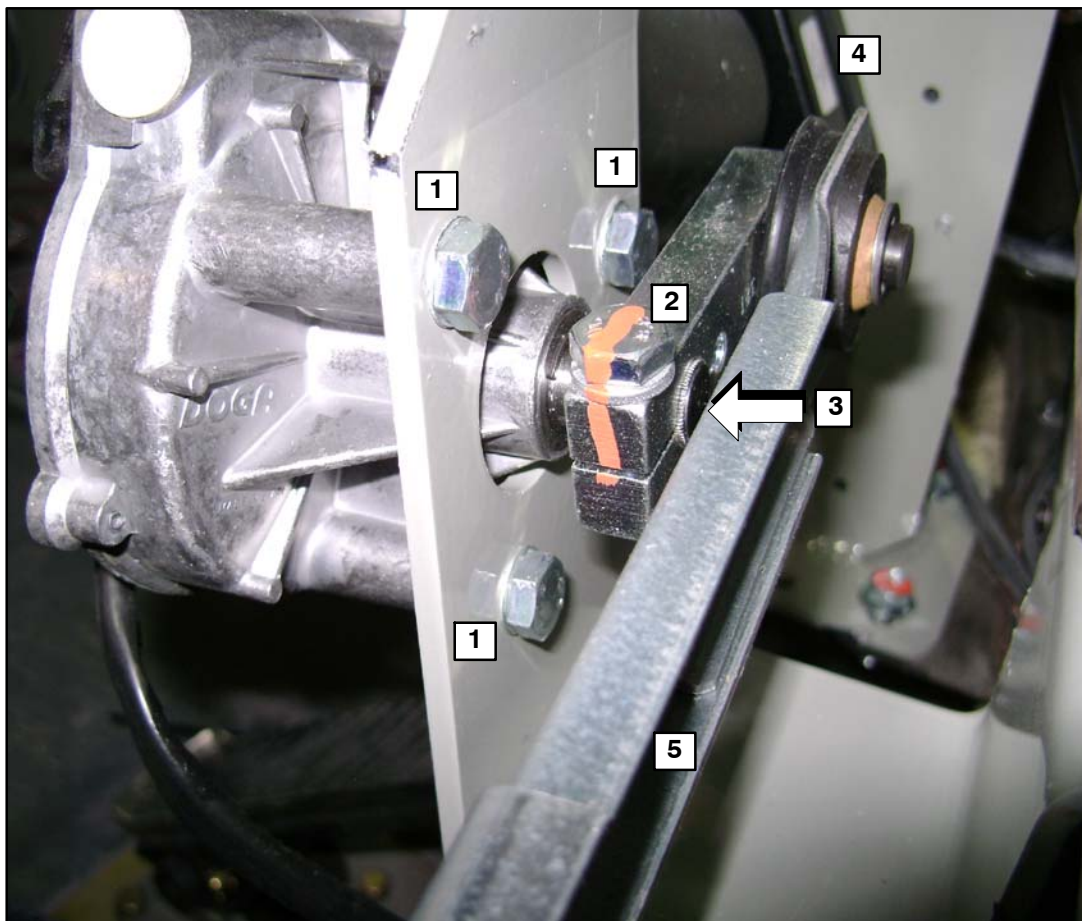

Figure 6. Rear View of Wiper Motor Installation
19. Locate the three wiper motor mounting bolts securing the wiper motor to the bracket (refer to Figure 6).
20. Loosen the wiper motor crank nut (refer to Figure 6).
21. Carefully push the linkage off the wiper motor shaft, Figure 6, ensuring no damage to the splines.
22. Using a 1/2" wrench or socket, remove and retain the three wiper motor mounting bolts (refer to Figure 6). Remove and discard the wiper motor.